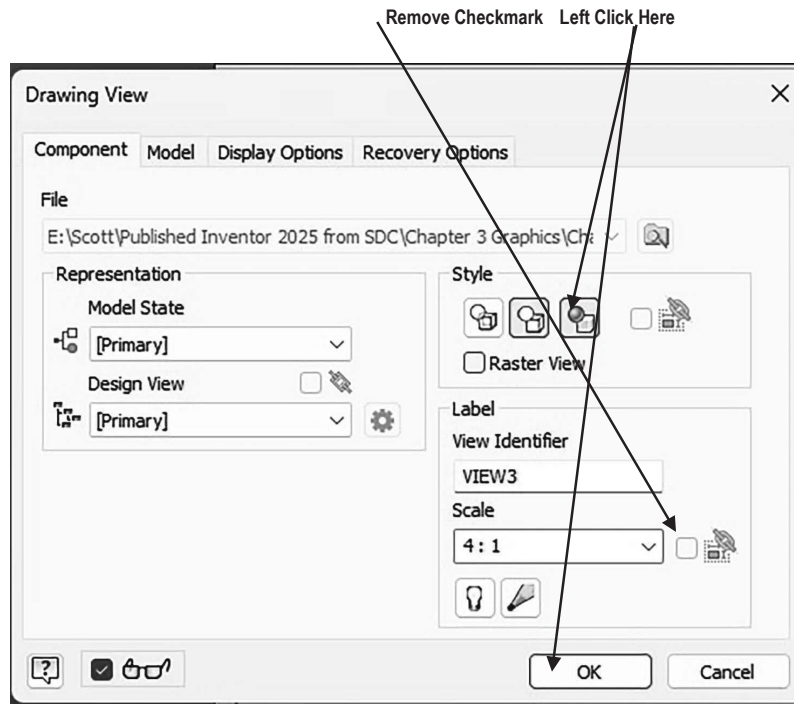

Figure 26
31. The Drawing View dialog box will appear. Left click on the “blue sphere.” Remove checkmark as shown. Left click on **OK** as shown in Figure 26.